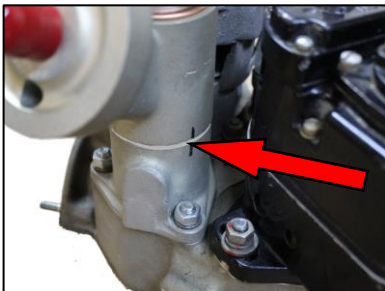

Figure 7
8. Make a match-mark on the sleeve and oil screen housing, see Figure 7. Remove the filter, taking care not to move the adapter sleeve. Check the match-mark. If the marks are not aligned, move the sleeve so that the marks are aligned. If necessary, tighten the spool slightly, just enough to hold the sleeve in place with marks aligned.